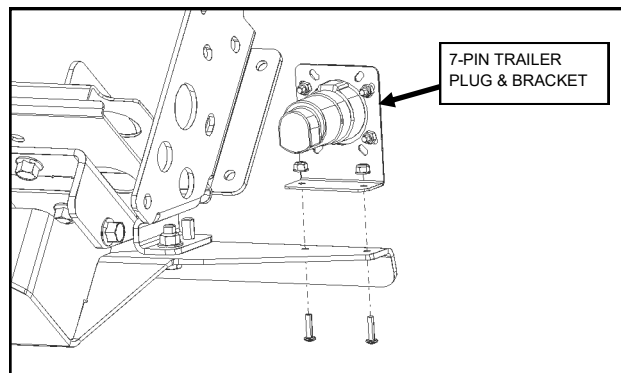

Fig. 3.2 (7-Pin Connector and Bracket)
3.2 Bolt on the 7-Pin trailer plug with mounting bracket found on Hydraulic Plow Kit on the Passenger side of the plow mount using (2) #10X3/4" Pan Head screws with (2) #10 Lock Nuts. See Fig. 3.2.